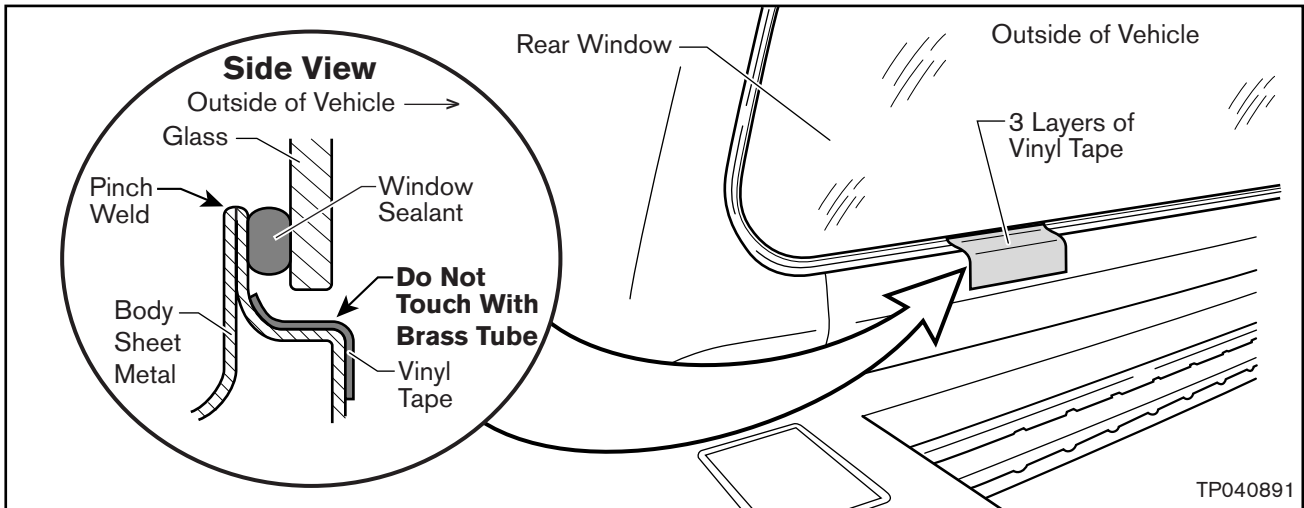

Figure 5
- a. On the outside of the vehicle, apply 3 layers of the vinyl tape to the body sheet metal below the area that you'll be drilling (see Figure 5).